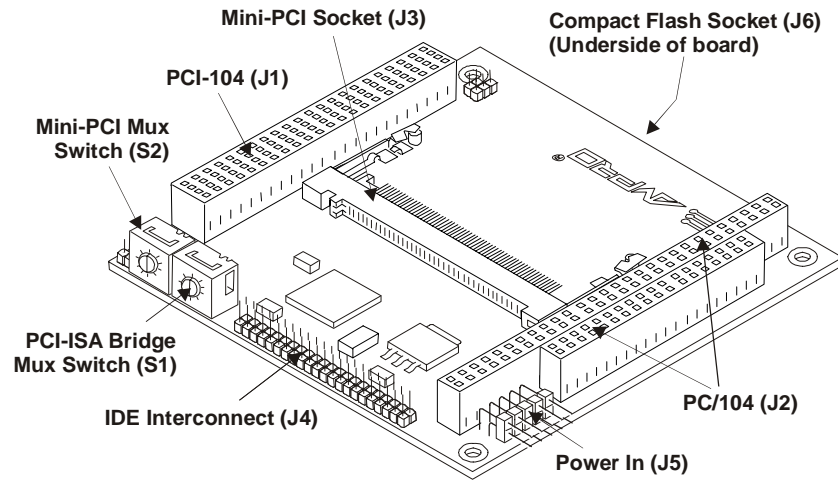

Figure 2-3. MiniModule ISA
17) Set the Device ID in the stack, if known.	<p>The Device ID Select switch (S1) is used to configure the PCI position of MiniModule ISA in the board stack. Refer to Figure 2-3, Table 2-1, and Table 3-3 in Chapter 3, Product Overview for more information.</p>
- ◆ Plug in a 2mm, 44-pin standard cable to J4 on the MiniModule ISA and into the corresponding IDE connector on the target. See Figure 2-3.